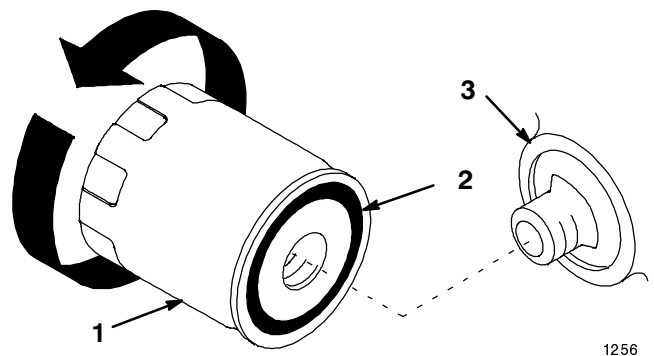

Figure 19
3. Apply a thin coat of new oil to the rubber gasket on the replacement filter (Fig. 19).
4. Install the replacement oil filter to the filter adapter. Turn the oil filter clockwise until the rubber gasket contacts the filter adapter, then tighten the filter an additional 1/2 turn (Fig. 19).